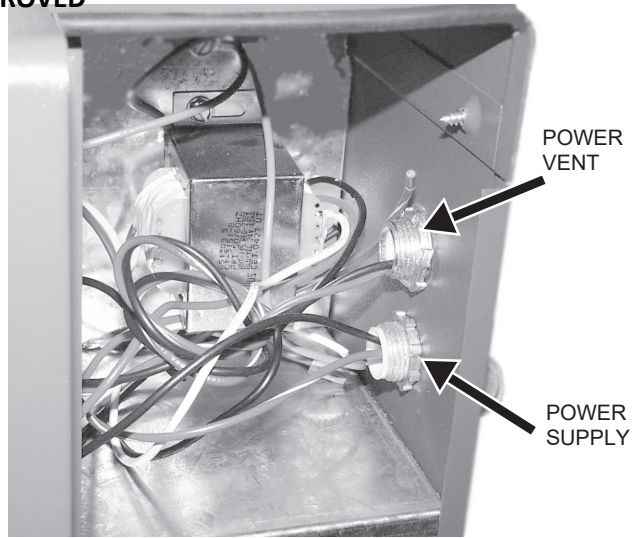

Figure 15. Conduit Routing
- 13. Install the right side outdoor conduit through the top 7/8" hole located on the right side of the heater. See **Figure 15**.